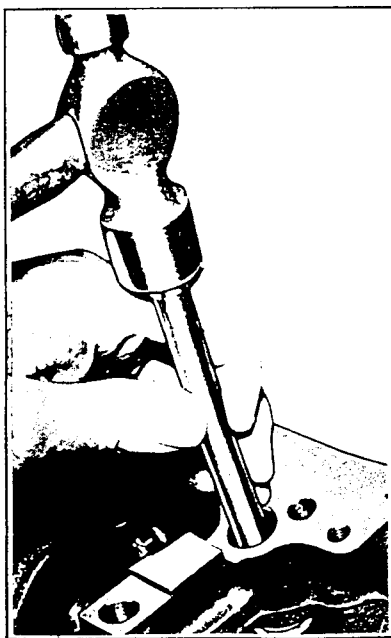

Figure 8-1-59
2. Using a drift up through bushing bore, drive thrust washer (if installed) out of bore and remove from block (see Figure 8-1-59).